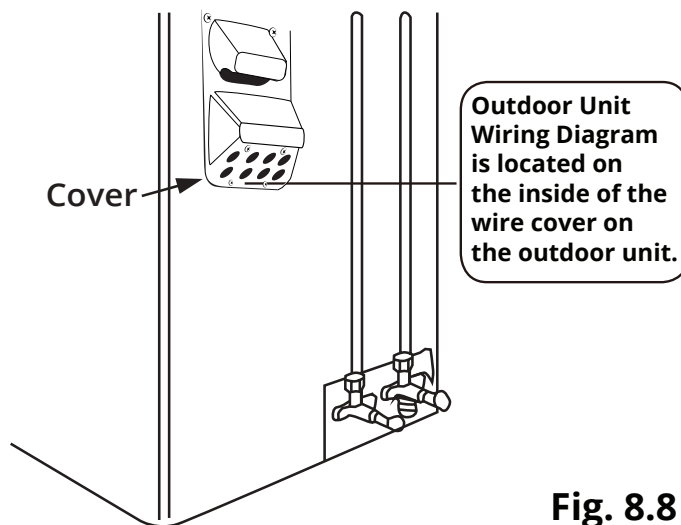

Fig. 8.8
1. Remove the screws from the electrical wiring cover from the outdoor condenser, as shown in the image below and **Fig. 8.8**, and remove it.
ALL WIRING MUST BE INSTALLED STRICTLY IN ACCORDANCE WITH THE WIRING DIAGRAM LOCATED ON THE INSIDE OF THE OUTDOOR CONDENSER WIRE COVER AS SHOWN IN FIG. 8.8.